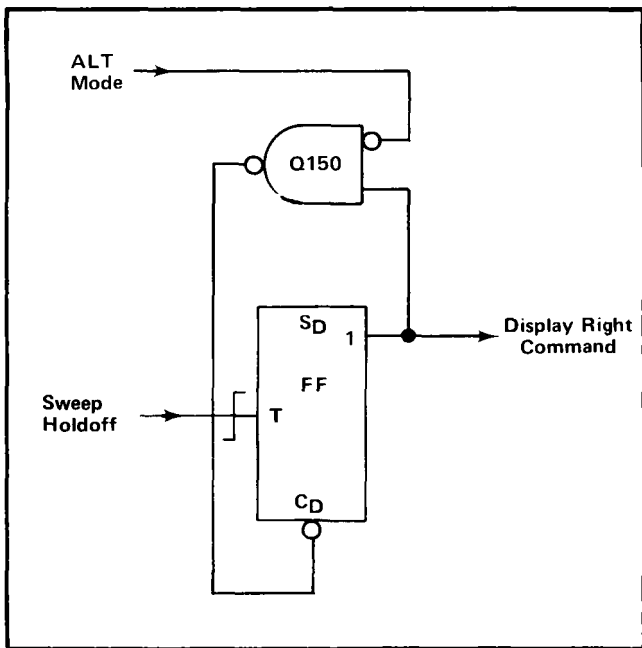

Fig. 4-10. Logic diagram of Vertical Binary stage.
with direct-set and direct-clear inputs (see Table 4-1 for operating details). The connection between the "0" output and the data (D) input enables this flip-flop to operate in the triggered mode. A logic diagram of the Vertical Binary stage is shown in Fig. 4-10.